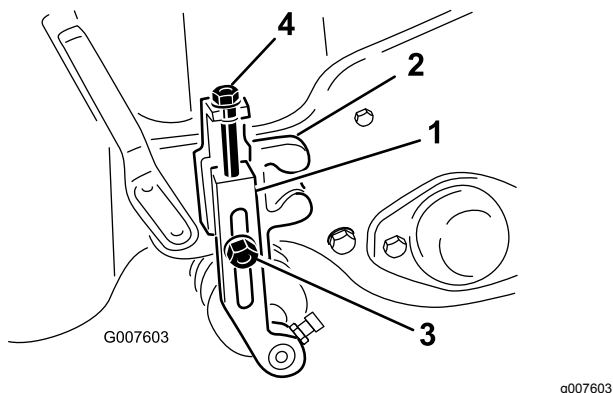

Figure 49
2. Loosen the locknuts that secure the height-of-cut arms to the height-of-cut brackets (Figure 49).